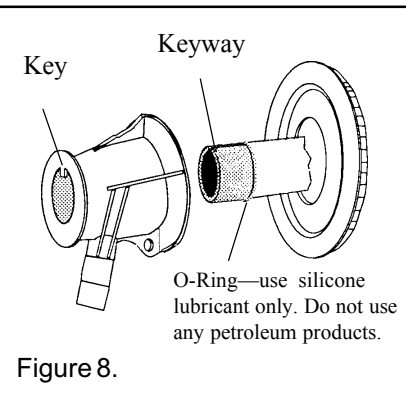

Figure 8.
16. Take the bulb assembly and insert it through the flow director. Note the aligning keyway on the bulb assembly as shown in Figure 8. The keyway must point in the same direction as the top key on the body fitting.
11. Take the new replacement bulb assembly with the red cap/plug in place and insert it through the flow director. Note the aligning keyway on the bulb assembly as shown in Figure 8. The keyway must point in the same direction as the top key on the body fitting.